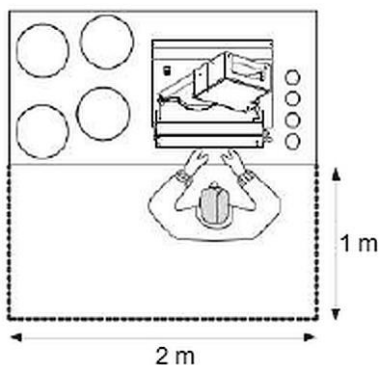

Fig. 5
- Carefully position the appliance, following the instructions in Fig. 5 which shows the minimum distances required to allow the operator or maintenance technician to perform any work and/or maintenance sequence.